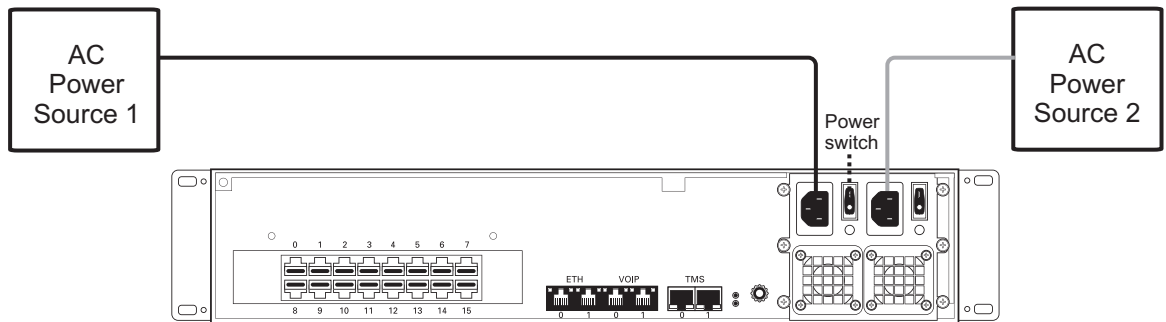

Figure 2.9 3200 Series Gateway AC Power Connection
1. Connect an AC power cable between the AC connector of the TMG3200 and an AC supply. See figure 2.9 on page 26.
Note If the 3200 series gateway features a second power supply and it is not connected to an AC power source, press the green button located at the rear of the unit to disable the audible alarm. See figure 2.9 on page 26.